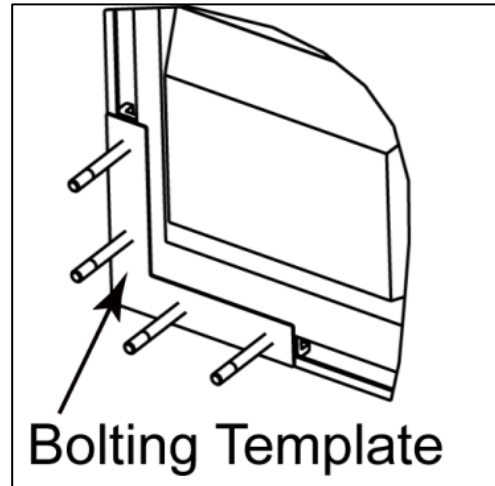

Figure 25: Bolting Template
5. Place the bolting template over the bolts in the U-Channel. The bolting template is important as it makes mounting the arm mounting assembly easier. Refer to **Figure 25**.